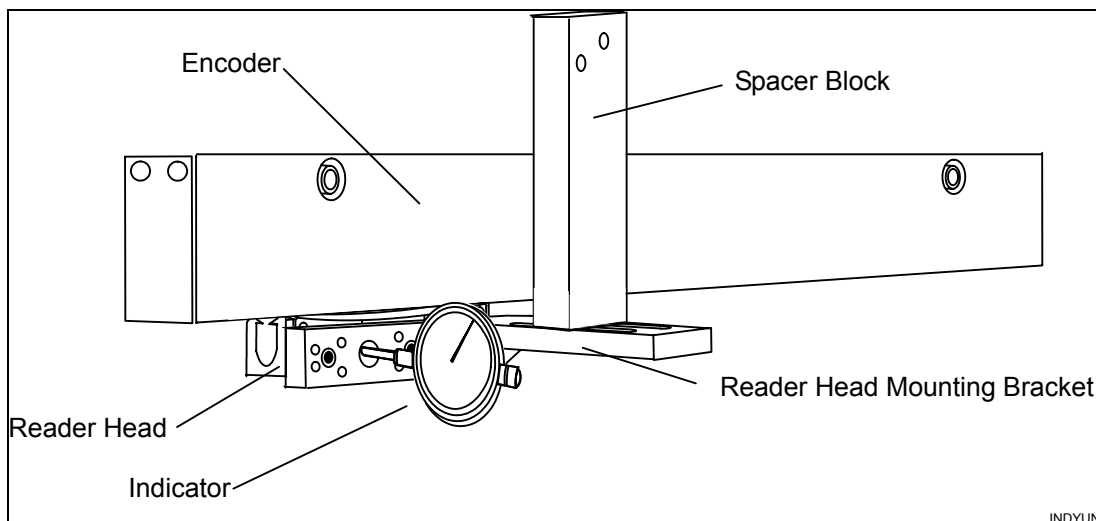

Figure 9, Universal Reader Head Indicator Setup
4. Refer to **Figure 9, Universal Reader Head Indicator Setup**. Set up an indicator so that the probe measures the position of the front of the reader head. A hole drilled in the center of the bracket provides access for the indicator probe.